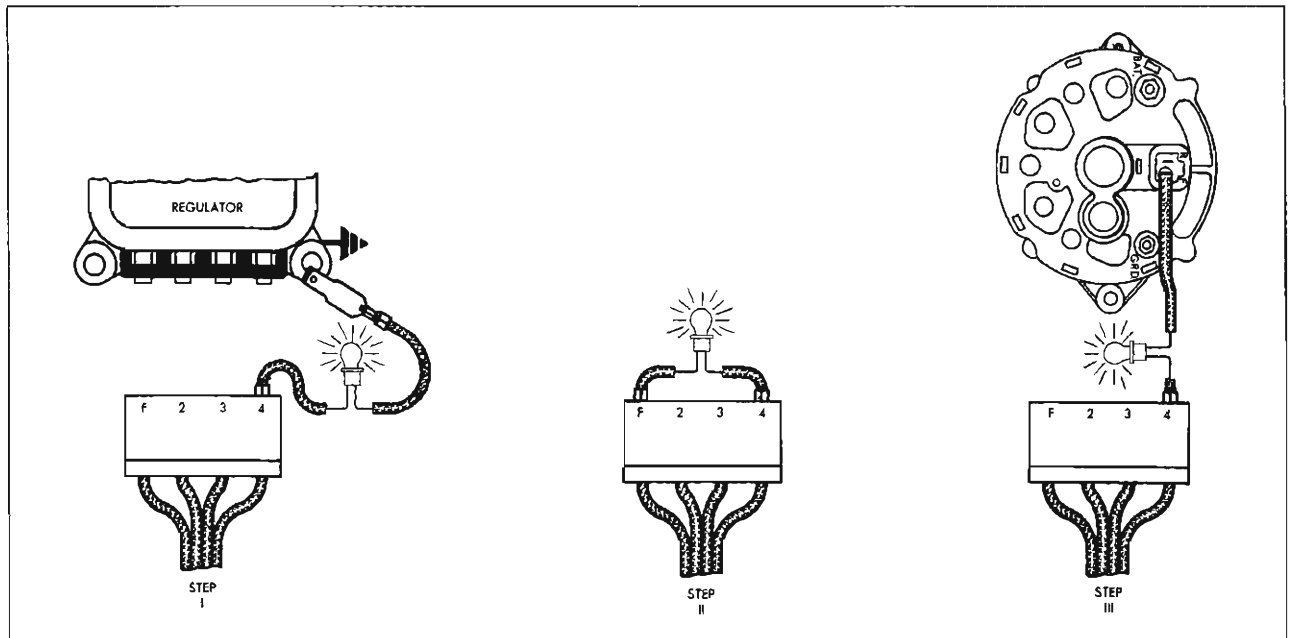

Fig. 9c—Initial Field Excitation Circuit Tests
1. Disconnect connector from regulator and turn ignition switch to “ON”. Connect a test lamp from connector terminal “4” to ground (fig. 9c, Step 1) and note test lamp.
2. Disconnect lamp lead at ground end and connect between connector “F” and “4” terminals (fig. 9c, Step 2), and note lamp:
3. Disconnect test lamp at connector “F” terminal and connect to “F” terminal on Delcotron (fig. 9c, Step 3), and note lamp:
1. Connect a test lamp from the wiring harness connector terminal “4” to ground as shown in Figure 9c (Step 1).